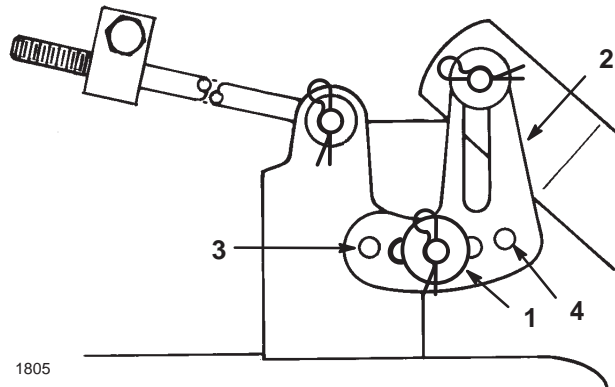

Figure 51
9. Remove the hairpin cotter and washer from the leveling bracket (Fig. 51).
10. To level the blades, reposition the leveling bracket in a different hole and install the washer and hairpin cotter (Fig. 51). A front hole lowers the blade height and a rear hole raises its height.